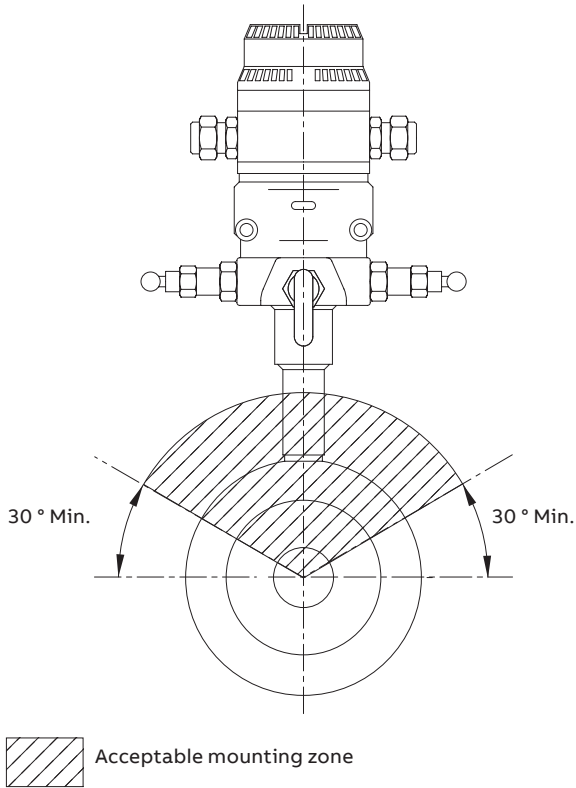

Figure 2 Horizontal pipe mounting – gas
To ensure that condensate drains back into the pipe, mount the meter above the pipe, at least 30 degrees above the horizontal – see Figure 2.
- b The meter is oriented correctly depending on the type of installation – see Figure 2, 3, 4 and 5.
- for horizontal pipe mounting – gas, refer to Figure 2, page 6.